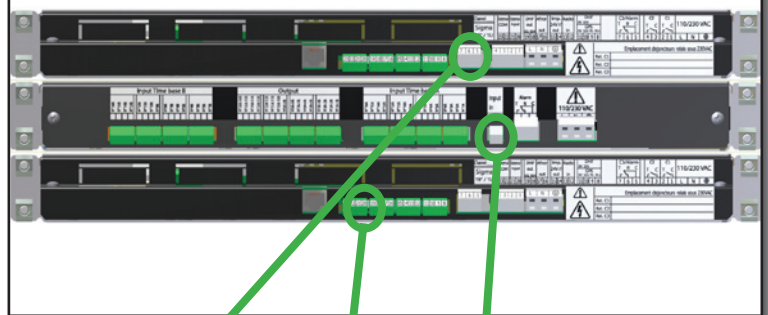

FIG. 1 :
Raccorder l'alimentation secteur 110-230 VAC ou 24VDC (Fig.: 1).
Raccorder la sortie alarme (bornes 5 et 6) du Sigma maître (A) sur l'entrée externe (bornes 20 et 21) du Sigma secondaire (B) et alarme (borne in) du Switch (Fig.: 1). Cette sortie commandera le basculement vers l'horloge mère secondaire. Le relais 3 du Sigma maître doit être déclaré en alarme (voir §9.4 de la notice du Sigma).
Connect the mains 230VAC or extra low voltage 24VDC (Fig.1). When the installation (24V) includes several Sigma UPS the earth poles of the sigma UPS batteries should be interconnected. The mains supply for this device must include a neutral phase circuit breaker of maximum 16A C curve (6A maximum for 24VDC version), rapidly accessible upstream from the supply. All cables must be attached to the frame of the cabinet before being connected to the various terminals strips, to prevent any pulling on these terminal strips. In addition, the wires of each terminal strips must be attached to each other to maintain the various isolations if an initial fault occurs. Connect the alarm output (terminals 5 and 6) of the main Sigma (A) on the external input (terminal 20 and 21) of the secondary Sigma (B) and on the alarm input (terminal in) of the Sigma switch (Fig. 1). This output will control switching to secondary master clock. Circuit 3 of the main Sigma must be assigned to alarm (see §9.4 of the SIGMA instruction manual). Equipotentiality of the ground between Sigma master clock and Sigma switch (of «-» for 24VDC version). Connect the time outputs of the main master clock to Input time base A and the ones of the secondary master clock to Input time base B. Connect the slave clocks to Output. When more than 8 outputs must be switched (for example the 12 outputs of 4 AFNOR option cards) then 2 Sigma Switch modules are required. **Caution** : respect the order when cabling input and output terminals (input terminals 1A and 1B for output terminal 1A-B). Only time outputs must be connected to the switch. This product is not supposed to switch power except for TBT 24VDC.